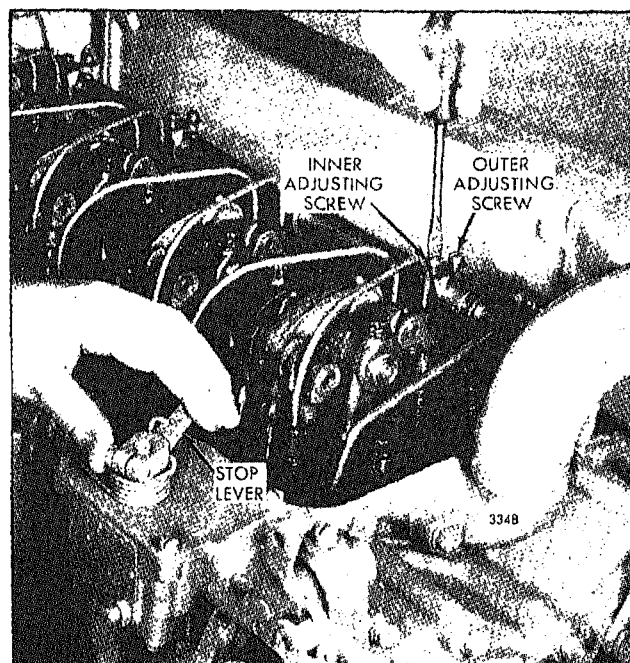

Fig. 2 - Positioning the Rear Injector Rack Control Lever
1. Loosen all of the inner and outer injector rack control lever adjusting screws (Fig. 2). Be sure all of the levers are free on the injector control tube.